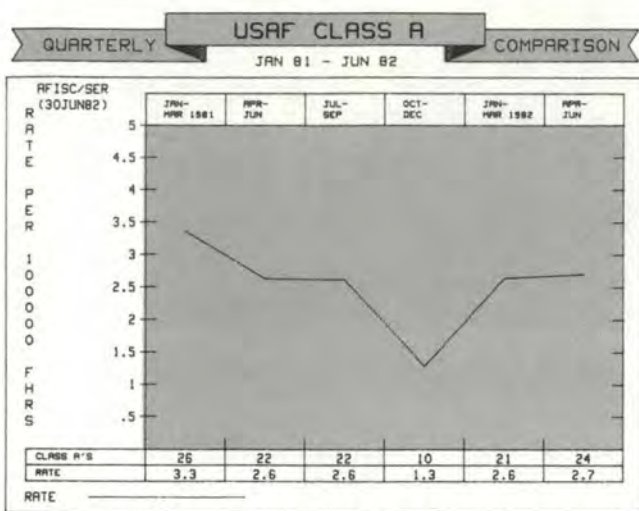

Figure 1
Overall, we did slightly better the first 6 months of this year as compared to last year while flying about 65,000 more hours. However, simple subtraction or a look at Figure 1 will show that we have a long way to go to beat the last 6 months of 1981 when we had only 32 Class A mishaps and a 6-month rate of 1.9. Actually, as the figure shows, the low number of Class As the last quarter of CY 1981 (10), is what really brought us down to the 1981 rate of 2.44. Other than that quarter we were — and still are — hovering between 21-24 Class As a quarter.